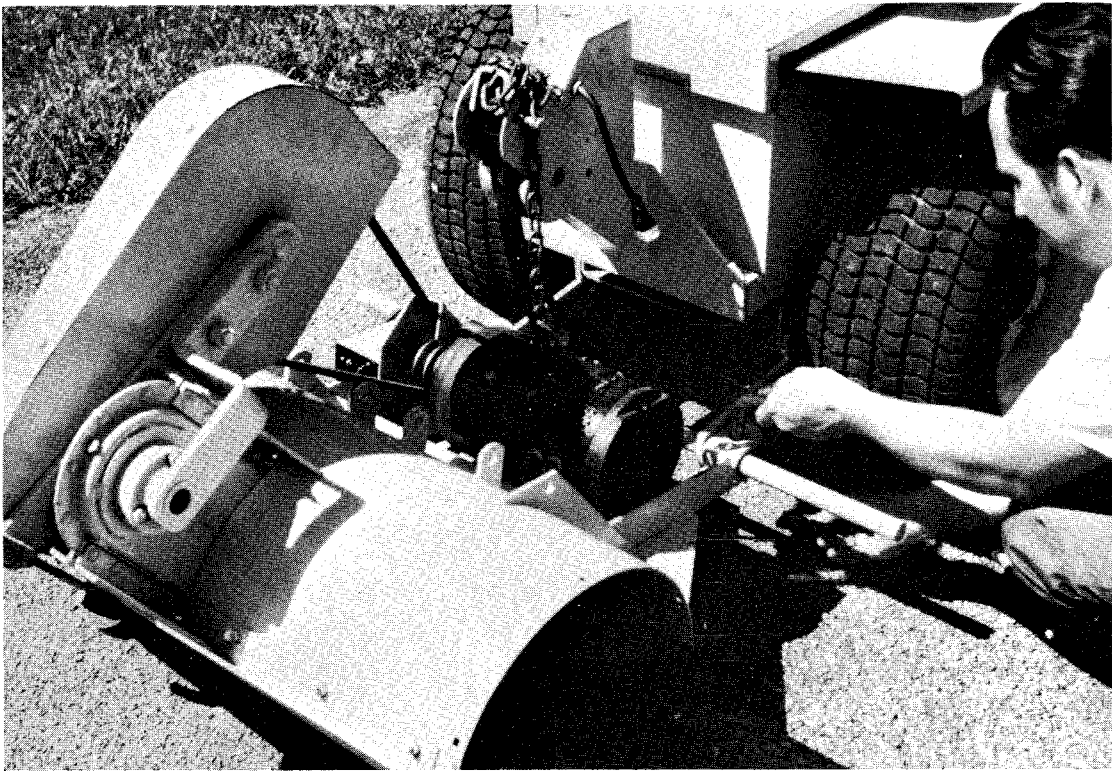

Figure 7. Tiller Center Mounting
Block up the front of the tiller so that each mounting clevis is at about the same height as the tiller hitch bar. Drive the tractor the slowest (LL) reverse speed into the tiller so that each clevis engages the hitch bar at the same time. Mounting may be made so tilling can be performed to the left, right, or center of the tractor. Refer to Figs. 7 and 8 for the center and right mounting configurations. Left-hand mounting is the opposite of the right-hand mounting.